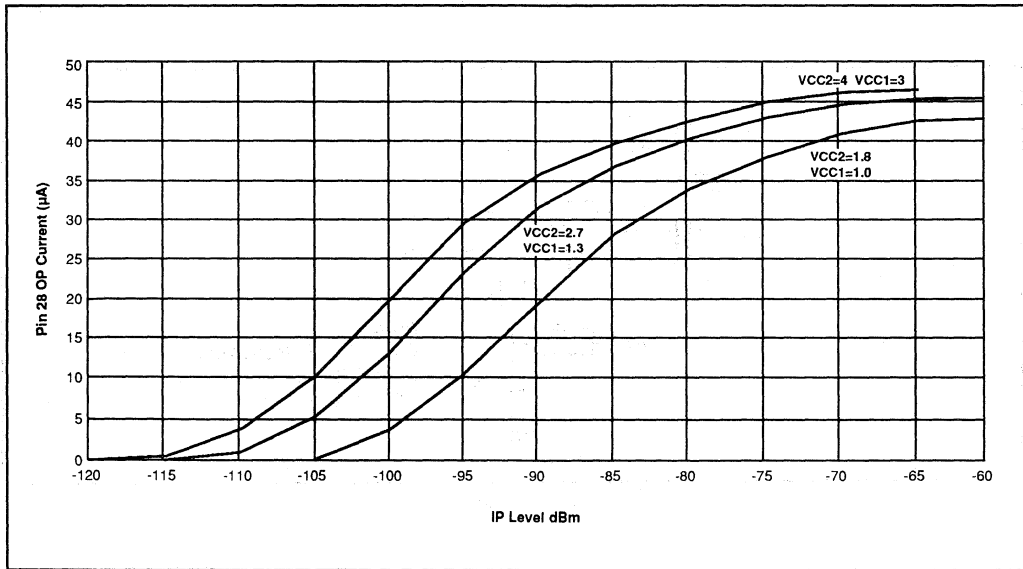

Fig.7 Audio AGC current vs. IP power at 25°C
- figure 7. If the audio AGC is not required then the current source (Pin 28) may be disabled by connecting Pin 9 (TCADJ) to VR (pin 6) and by connecting Pin 28 (IAGCOUT) to Vcc1., (R18). The voltage at Pin 8 may still be used as an RSSI. R9, C8, C14, C19, R17 and D1 may then be omitted.